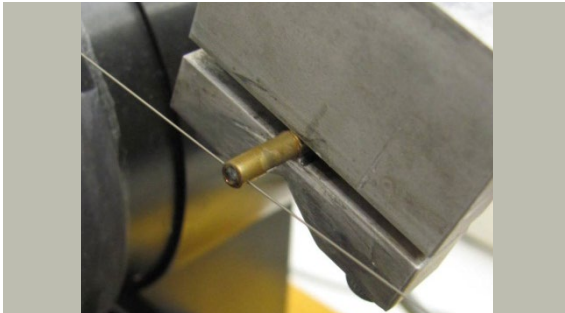

Figure 5. Cut the brass tube/silicon core into thin slices.
1. Securely chuck the brass tube containing the silicon core into a saw (e.g., a diamond-wire saw) and cut thin slices (Figure 5).